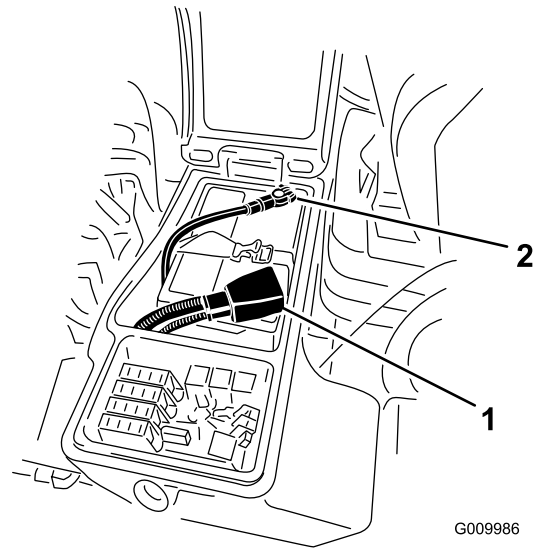

Figure 54
3. Remove the negative cable (black) from the negative (-) terminal and the positive cable (red) from the positive (+) terminal of the battery (Figure 54).
6. Install the positive cable (red) to the positive (+) terminal and the negative cable (black) to the negative (-) terminal of the battery (Figure 54).